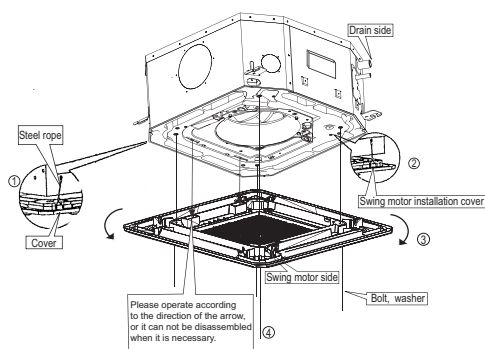

Fig.5-11
- Align the swing motor on the panel to the tubing joints of the body properly. (Refer to Fig.5-11)
- Hang the four fixed rope of the main body to the installation cover and the other three covers of the swing motor: (Refer to Fig.5-11 ① and ②)
- Install the panel on the main body with bolt (M5×16) and washer. (Refer to Fig.5-11④)
- Regulate the panel in the direction of the arrow in Fig.5-11.③ slightly to fit the panel's center to the center of the ceiling's opening. Guarantee that hooks of four corners are fixed well.